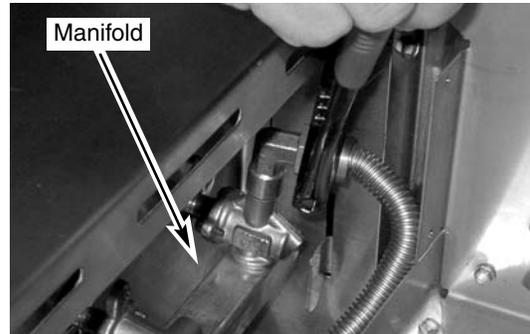

Fig 16
19. Reattach the flexline on the left of the grill to the back infrared valve using an adjustable wrench (Fig. 16).